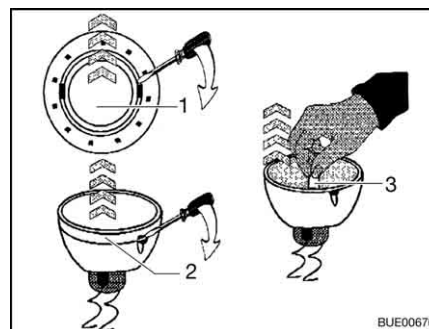

Fig. 283 Changing the halogen bulb
- Use a screwdriver to remove the inner cover ring (Fig. 283,1) from the housing.
- Use a screwdriver to remove the cover ring with the glass (Fig. 283,2) from the lower section of the recessed halogen light.
- Remove halogen bulb (Fig. 283,3).